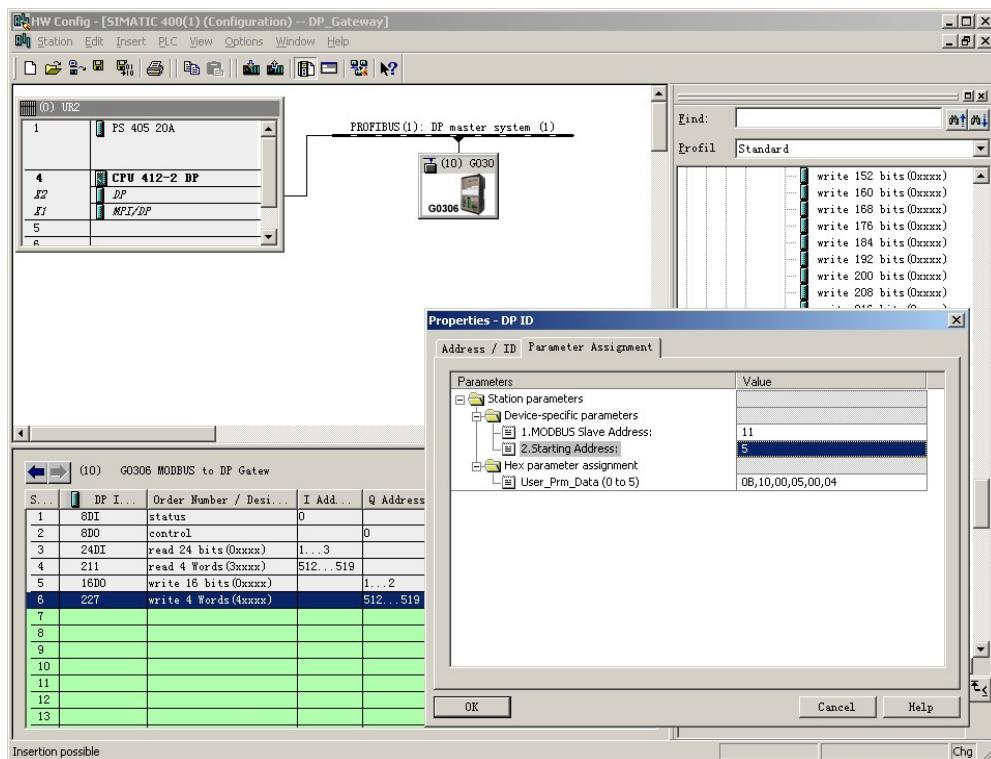

Figure 26 Configure user parameters of the "write 4 Words(4xxxx)" module
b) Configure the user parameters of the "write 4 Words(4xxxx)" module, as shown in Figure 26:
"1.MODBUS Slave Address:"⇒ Type in Modbus slave address 11, as shown in Figure 26.
"2.Starting Address:"⇒ Type in the starting address 0006 of register 0xxxx to be written, and set the address to 5⇒"OK", Figure 26.